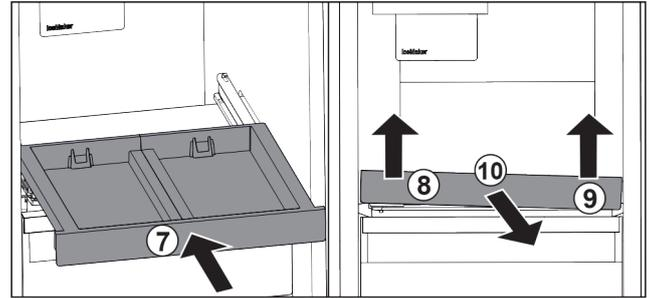

Fig. 20
- ▶ Slide in the pull-out board. Fig. 20 (7)
- ▶ Lift the pull-out board on the front left. Fig. 20 (8)
- ▶ Lift the pull-out board on the front right. Fig. 20 (9)
- ▶ Take out the pull-out board to the front. Fig. 20 (10)